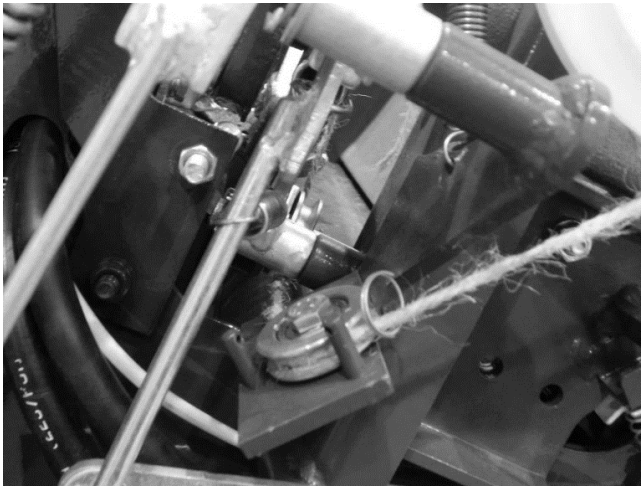

Figure 21 Right side of baler
2. Unlatch the pickup lever lock and lower the pickup. Adjust the height of the pickup with the chain so that the tines are approximately one (1) inch from the ground at their lowest point. For very long grass, the height may be raised some to help avoid dirt mounds. For very short grass and cut straw, the pickup may need to be lowered some for good results. Avoid continual contact with the ground, as this will result in dirty hay and will reduce the life of the pickup tines.
3. Make sure the twine is fed properly over the rollers and around the twine pulley (see Figure 21 - Figure 23 and refer to Section 3.1 for details on how to thread the twine). Pull the end of the twine to ensure it is taut.